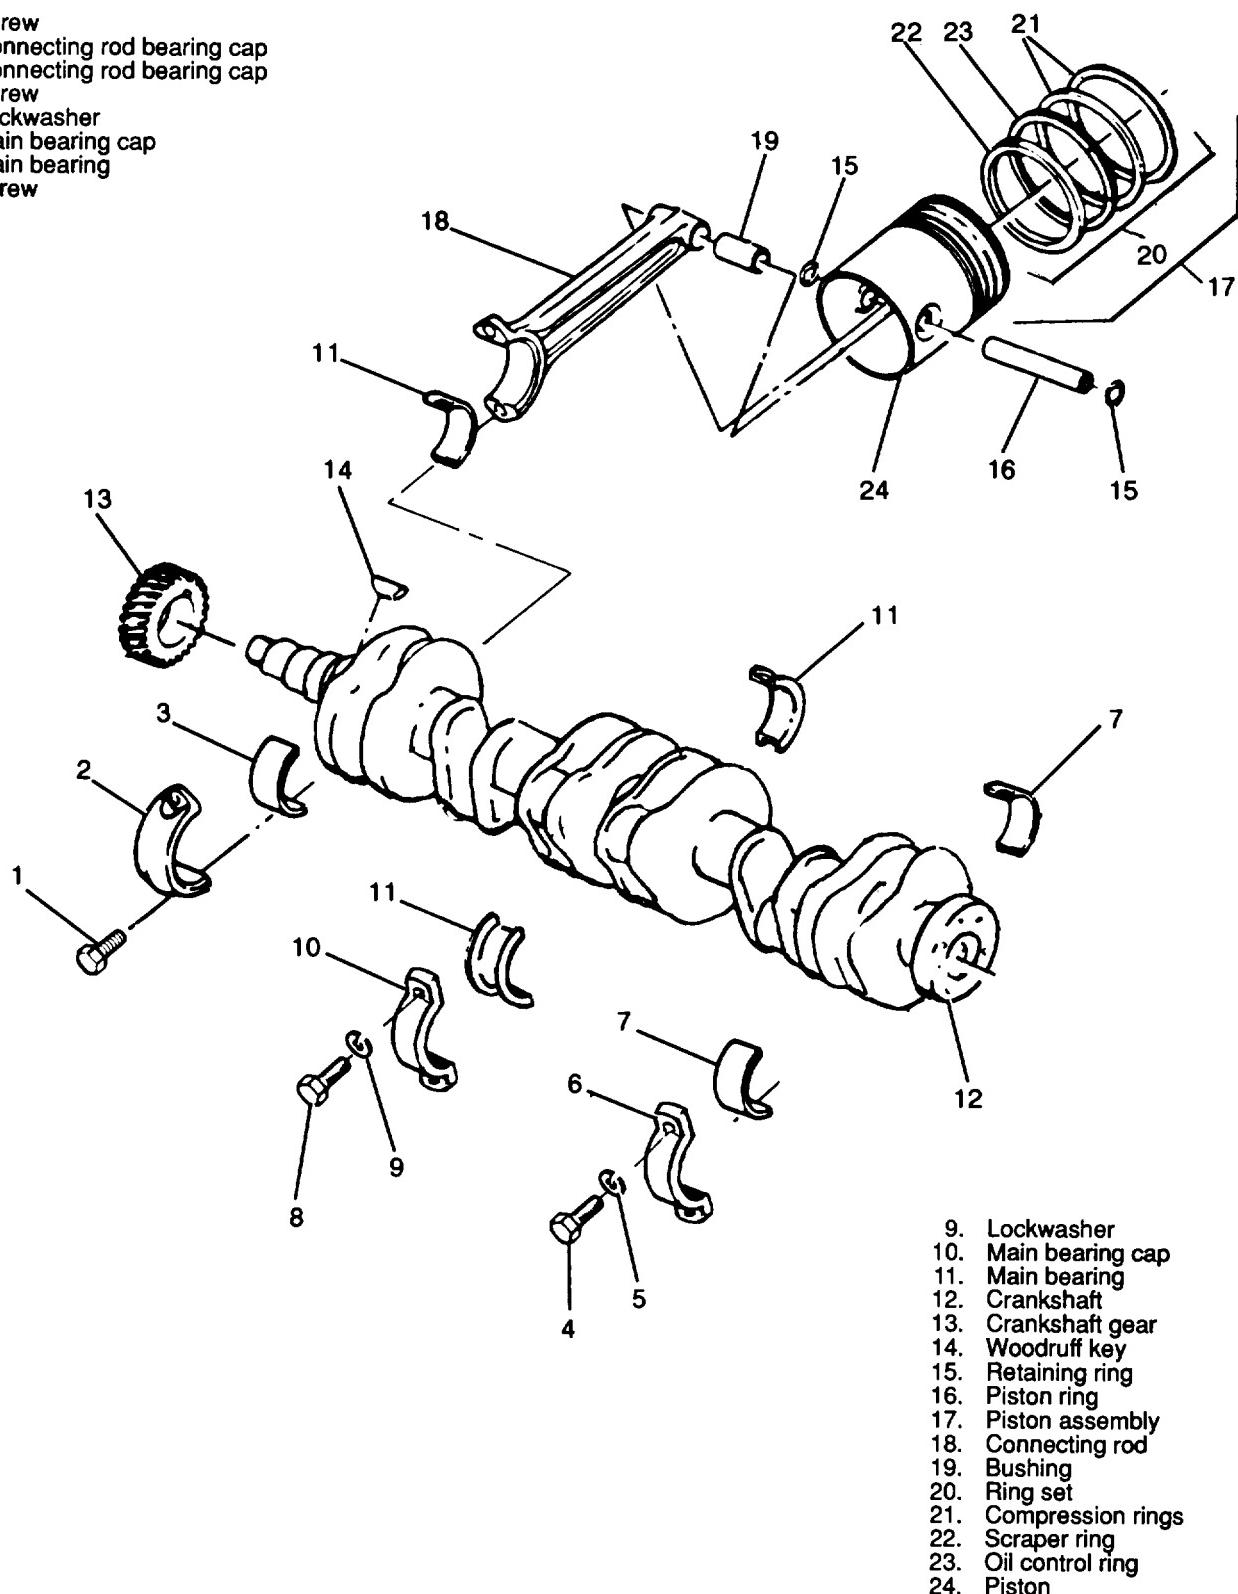

Figure 3-52. Crankshaft, Connecting Rods and Pistons, Exploded View
- (1) Remove oil pump assembly (paragraph 3-38).
- (2) Remove flywheel and flywheel housing (paragraph 3-50).
- (3) Remove cylinder head and rocker arm assembly (paragraph 3-54).
- (4) Using a ridge cutter, remove the ridge from the top of each cylinder.
- (5) Remove screws (1, figure 3-52) and connecting rod bearing caps (2) and lower half of connecting rod bearing insert (3).
- (6) Using a wooden dowel, push pistons and connecting rods out top of cylinder block.
- (1) Using a piston ring expander install oil control ring (23, figure 3-52), scraper ring (22) and compression rings (21 ) onto pistons (24).
- (1) Install upper half of main bearings (7 and 11, figure 3-52) into cylinder block.
- (13) With piston rings compressed, use a hammer handle or wooden dowel to force piston down into cylinder bore.
- (14) When entire piston is in cylinder bore, insert upper half of connecting rod bearing (3, figure 3-52) and pull connecting rod down to crankshaft.
- (15) Place a short strip of plastic gauge on crankshaft and install lower half of connecting rod bearing, connecting rod bearing cap (2) and screws (1). Tighten screws to 70 lb-ft torque.
- (16) Remove screws and connecting rod bearing cap to remove plastic gauge.
- (17) Check plastic gauge against standard to determine bearing clearance. Clearance shall be 0.0010 to 0.0030 inch.
- (18) When clearance is established, install lower bearing half, bearing cap and screws (step 16, above).
- (19) Install timing gear housing and assembly.
- (20) Install cylinder head and rocker arm assembly (paragraph 3-54).
- (21) Install flywheel and flywheel housing (paragraph 3-50).
- (22) Install oil pump assembly (paragraph 3-38).